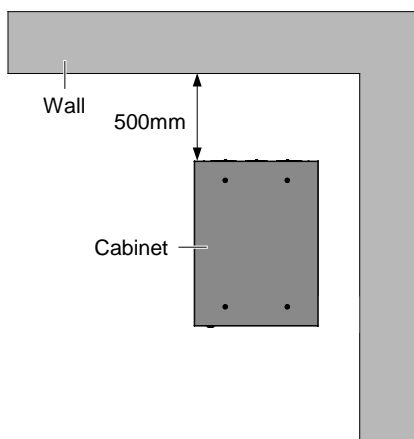

Figure 2-3 Installation clearances (top view of rack installation)
The internal fans provide forced air cooling for the UPS. Cooling air enters the UPS through the ventilation holes on the front panel, and exhausts the hot air through the back ventilation holes. Therefore, do not obstruct the ventilation holes. Maintain at least 200mm clearances between the front, rear of the UPS and the wall or adjacent equipment (see Figure 2-3), to avoid obstructing the UPS ventilation and heat dissipation. Otherwise, the UPS internal temperature will rise, which will shorten the UPS life.
2. As shown in Figure 2-3, the demonstration of the clearance between the rear panel of the cabinet and the wall is 500mm. The clearance should not be less than 200mm, it needs to be considered according to the actual situation for the sake of maintenance convenience.